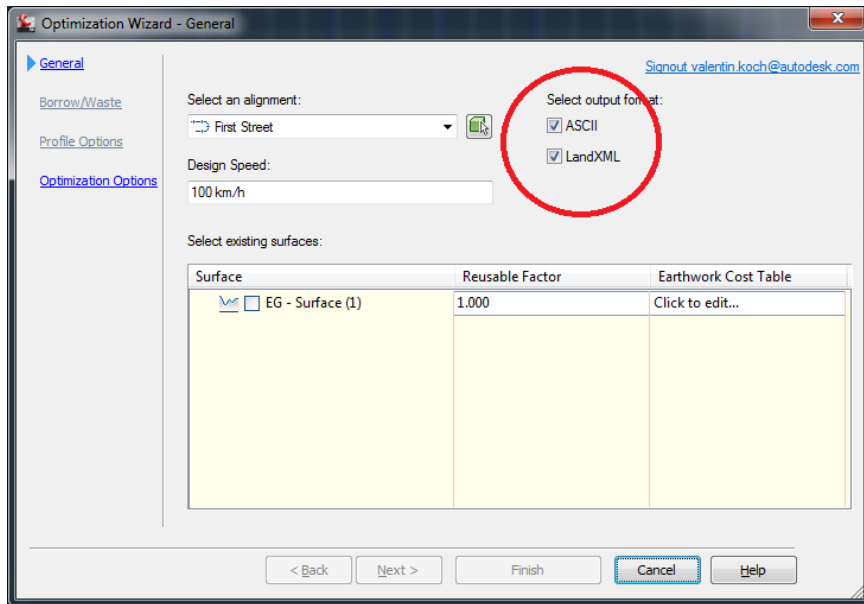

Figure 9: Output format
4. The solution e-mail will contain a PDF report with the PVI configurations and earthwork estimates. Additionally, the user will receive the solution in an ASCII and a LandXML data file that can be imported into a Civil 3D drawing (see Figure 9). To opt out of the additional formats, you can simply uncheck them.